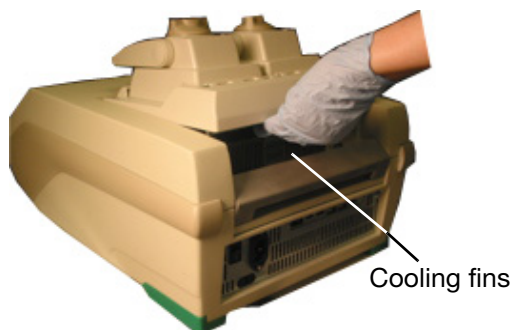

Figure 8. Lifting the reaction module out of the bay.
- Unlock and release the reaction module by pushing the locking bar down (Figure 8).
- Carefully lift the reaction module out of the bay (Figure 8).